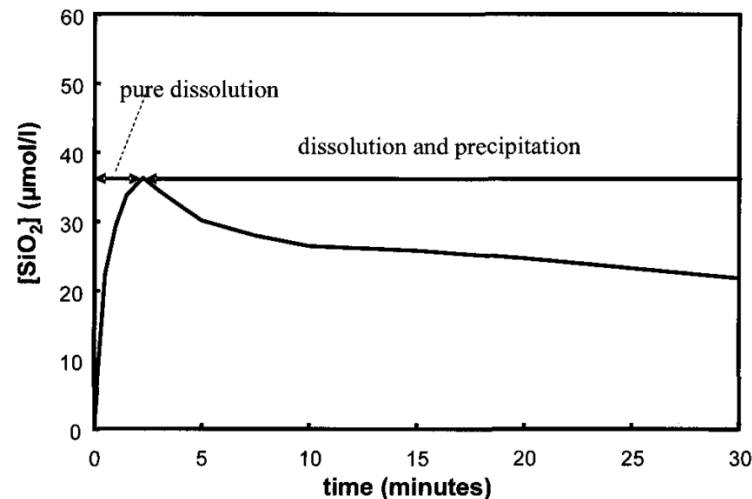

Fig. 1 - Variation of the silica concentration against time during Ca_3SiO_5 hydration in saturated lime solution.
Fig. 1. STM and AFM imaging of pentacene on Cu(111). (A) Ball-and-stick model of the pentacene molecule. (B) Constant-current STM and (C and D) constant-height AFM images of pentacene acquired with a CO-modified tip. Imaging parameters are as follows: (B) set point $I = 110$ pA, $V = 170$ mV; (C) tip height $z = -0.1$ Å [with respect to the STM set point above Cu(111)], oscillation amplitude $A = 0.2$ Å; and (D) $z = 0.0$ Å, $A = 0.8$ Å. The asymmetry in the molecular imaging in (D) (showing a “shadow” only on the left side of the molecules) is probably caused by asymmetric adsorption geometry of the CO molecule at the tip apex.